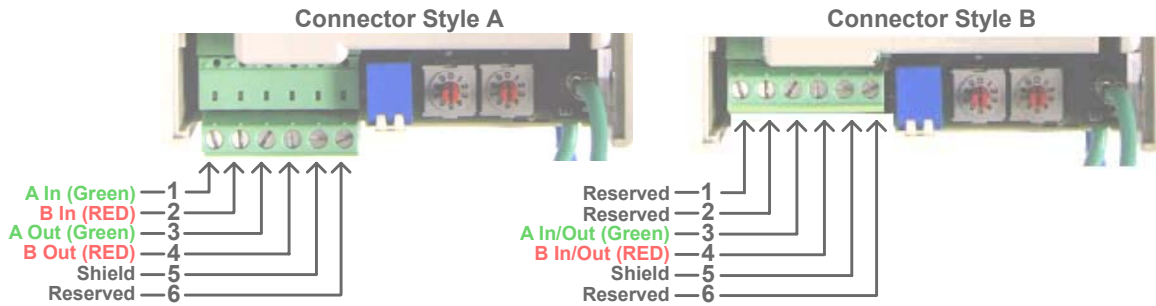

Figure C.2 – V7 PROFIBUS-DP Option Connections
- Connect the PROFIBUS-DP network cable to the *V7 PROFIBUS-DP Option*. Refer to the appropriate connection drawing in Figure C.2 below for your connector style.